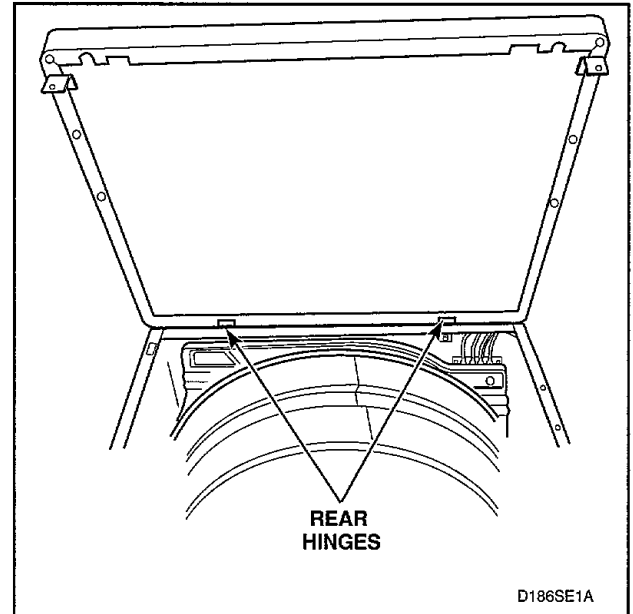

Figure 16
- Lift cabinet top to a vertical position by hinging it on the rear hinges, *Figure 16*.